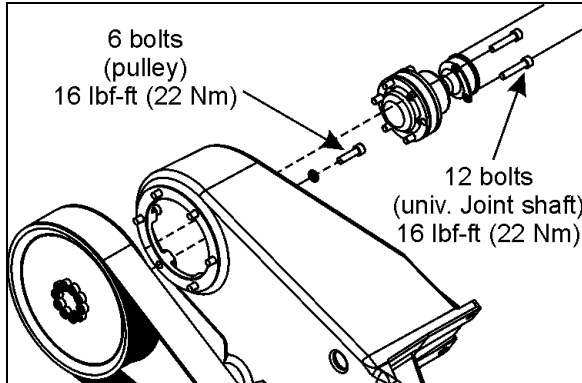

FIGURE 22: TIGHTENING SPECIFICATION 05123A
2. Dismount the drive pulley. Gain access to the 6 mounting bolts from behind the pulley, through the opening in the cast aluminum support (Fig. 22).
3. Unscrew and remove the universal joint shaft mounting bolts (6) at the right angle gearbox.